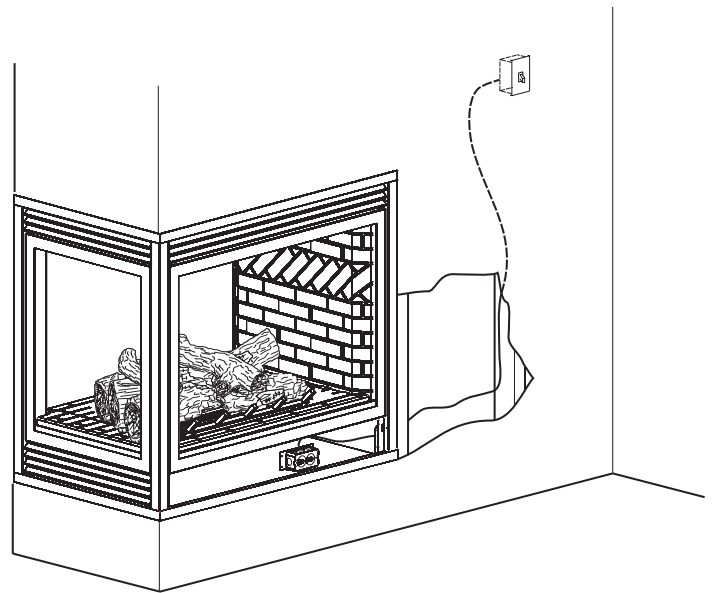

Figure 70
Note: Junction box is to be located in the lower compartment of the fireplace and must be pre-wired at time of fireplace installation for use with blower assembly. A standard ON/OFF wall switch or SCV-1 variable speed control kit should be installed to activate power to the Junction Box and provide power for the operation of the blower assembly. It is recommended that installation of the wiring be performed by a qualified electrician. **See Figure 70.**
8. To complete the installation, plug the power cord into the junction box receptacle previously installed in the bottom of the fireplace. See **Figures 70 and 71**.